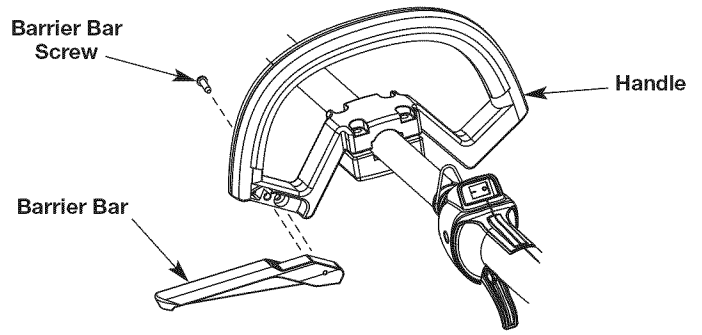

Fig. 1
1. Align the two pegs on the barrier bar with the two holes in the handle (Fig. 1).
3. Insert the barrier bar screw into the handle (Fig. 1).